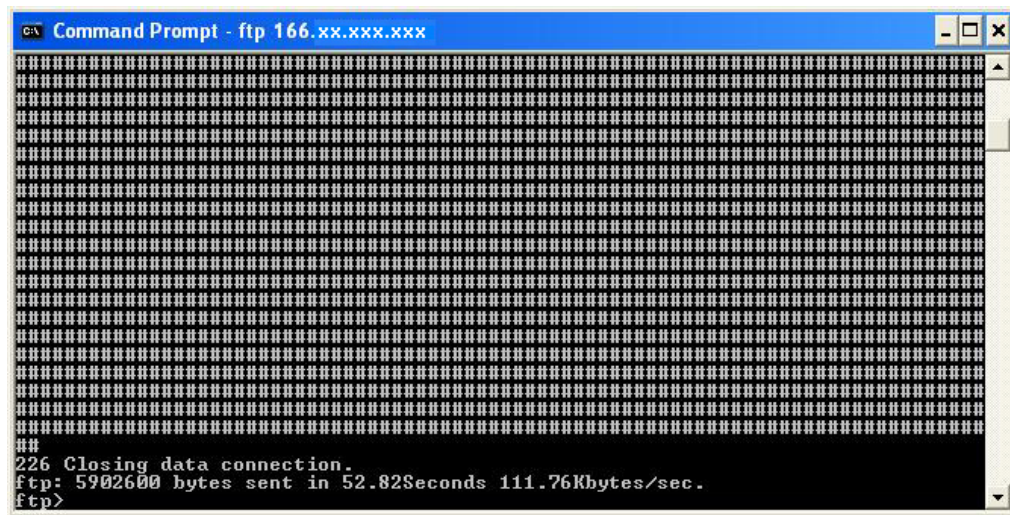

Figure 81. Closing Message
- When the upgrade finishes, the closing message displays (see Figure 81).